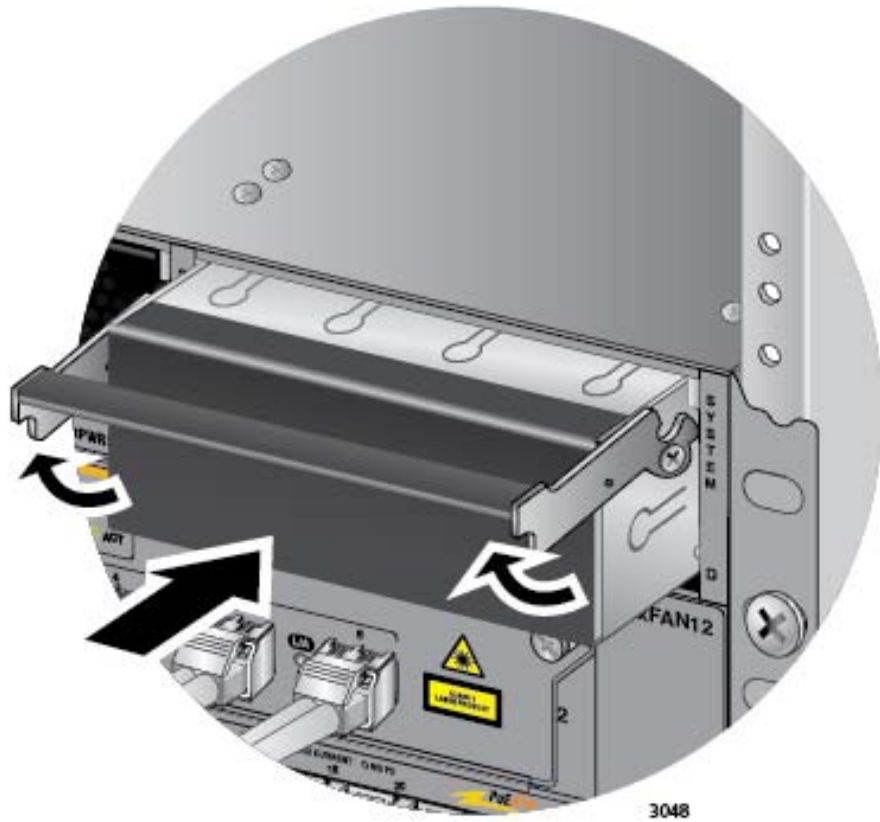

Figure 132. Installing a Blank Power Supply Slot Cover
5. Place the locking handle on the slot cover in the up position and slide the cover into the empty power supply slot, as shown in Figure 132 on page 216.